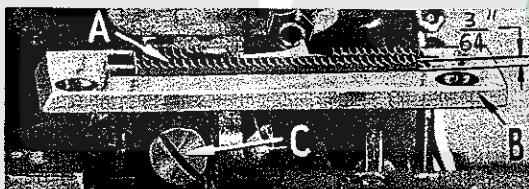
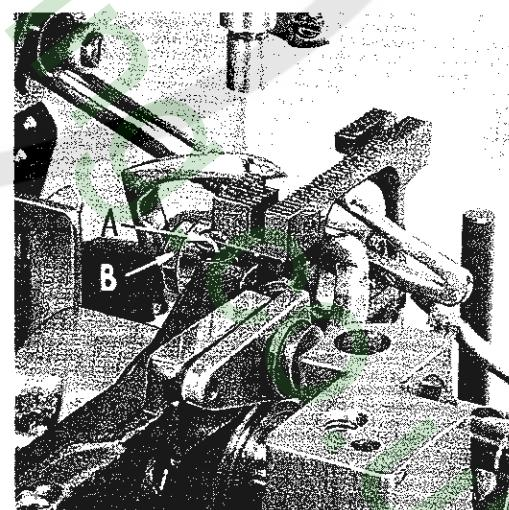
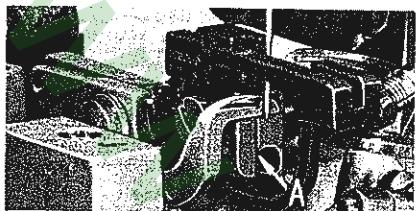

Fig. 7
Fig. 8
Fig. 9
If feed dog teeth are not parallel with the throat plate, loosen nut (B, Fig. 8) and turn screw (A, Fig. 9) clockwise to lower the front teeth, and counterclockwise to raise the front teeth. Retighten nut when feed dog is set properly.
Set the feed dog (A, Fig. 7) in the throat plate (B) so there is equal clearance on all sides and that the tips of the teeth are parallel with and project $\frac{3}{64}$ inch above the throat plate at high point of travel. Adjust the supporting screw (A, Fig. 8) under the feed dog to maintain this setting. Screw (C, Fig. 7) is used to